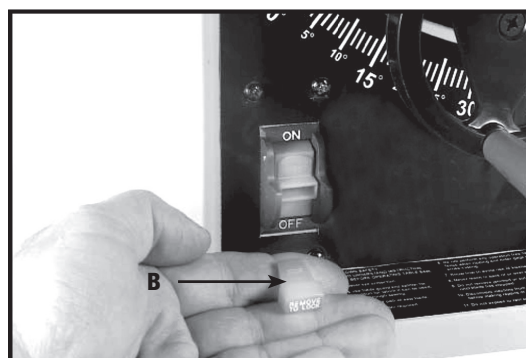

Fig. 28
IMPORTANT: When the tool is not in use, the switch should be locked in the "OFF" position to prevent unauthorized use. To lock the tool, grasp the switch toggle (B) and pull it out of the switch (Fig. 28). With the switch toggle (B) removed, the switch will not operate. However, should the switch toggle be removed while the saw is running, the machine can be turned "OFF," but cannot be restarted without re-inserting the switch toggle (B).